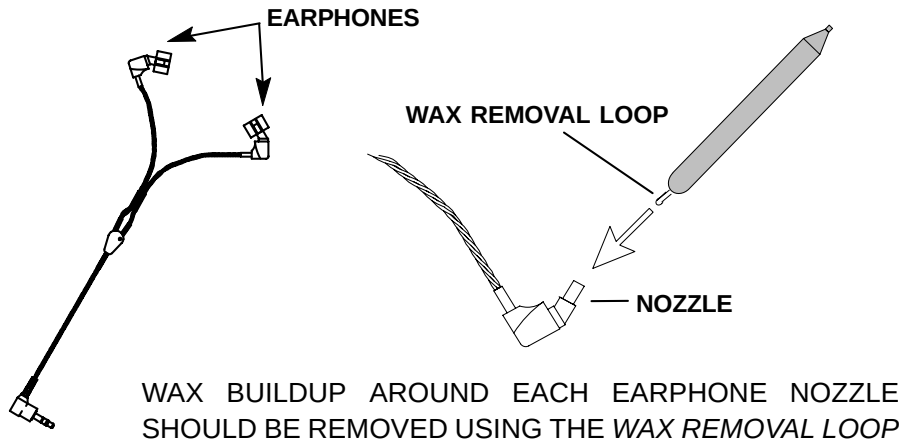

FIGURE 1: E1/E5 Wax Removal
- *E1/E5: clean the nozzles after each use using the supplied wax removal tool (see figure 1).*